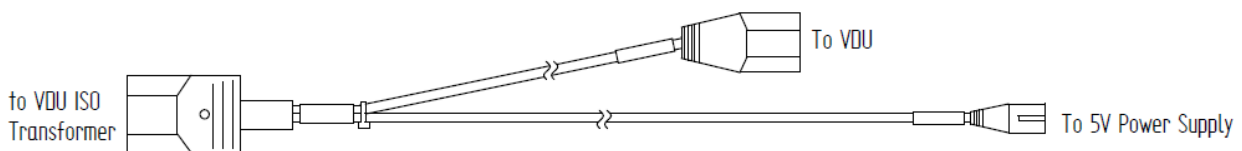

Figure 7: Split power cable diagram
12. Connect one of the female connectors of the split power cable to the TRM (see Figure 7).